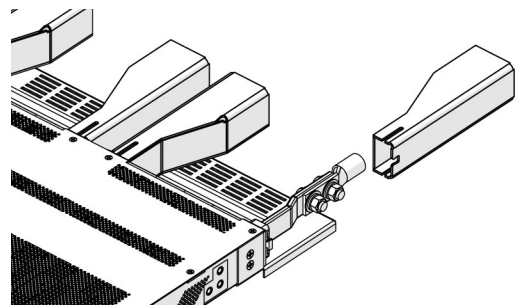

Figure 11. Straight Isolators
**Step 1.** Pry the isolator open and place it around the cable. Ensure that it is in the correct orientation (see Figure 11).